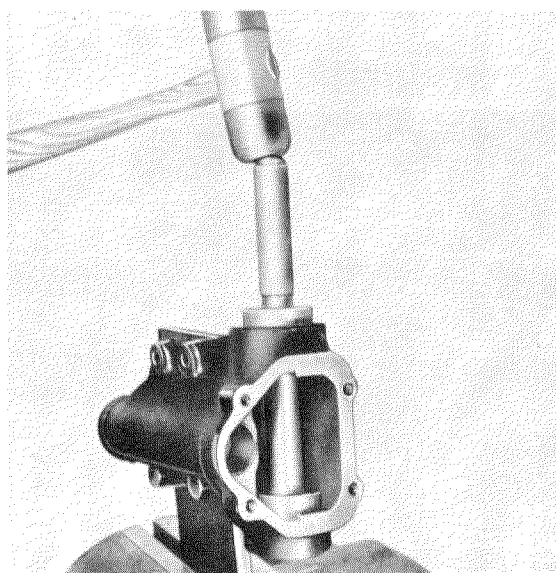

Fig. 46—4/9
24. Now install the lower ball retainer and slide the steering worm together with the steering nut into the housing from above; incline the steering worm at an angle when sliding it into the housing (Fig. 46—4/10).